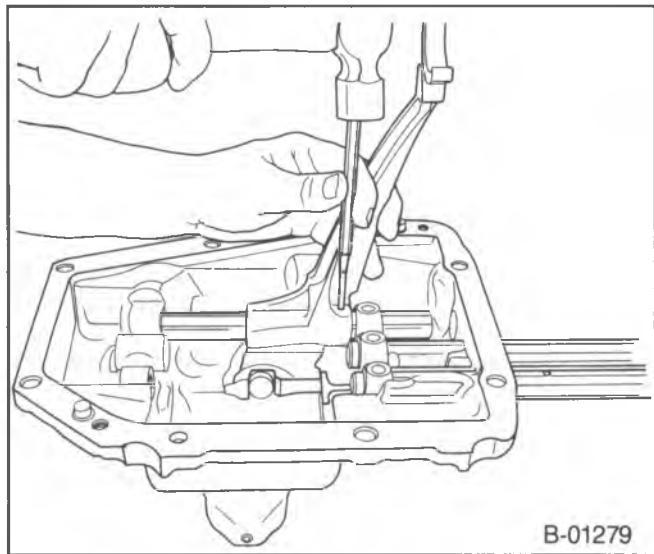

Figure 31—Removing the Retaining Pin
1. Three plugs (297).
2. Fork retaining pins (303), (figure 31).
4. Interlock balls (306) and the pin (304).
5. Detent balls (213) and the springs (212).
6. Retainer (302) from the plunger (299).
7. Plunger (299) and spring (300) from the reverse shift fork (301).
4. Interlock shuttles (306) and the pin (304).
5. Detent pins (213) and the springs (212) and (308).